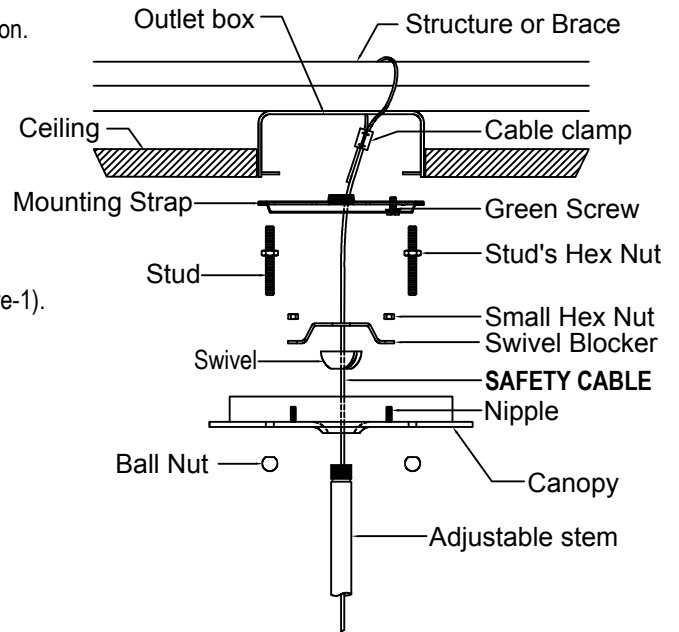

FIGURE-1
1. Attach the SAFETY CABLE to the building structure or brace (See figure-1).
- Attach the **SAFETY CABLE** to the building structure or brace (See figure-1).